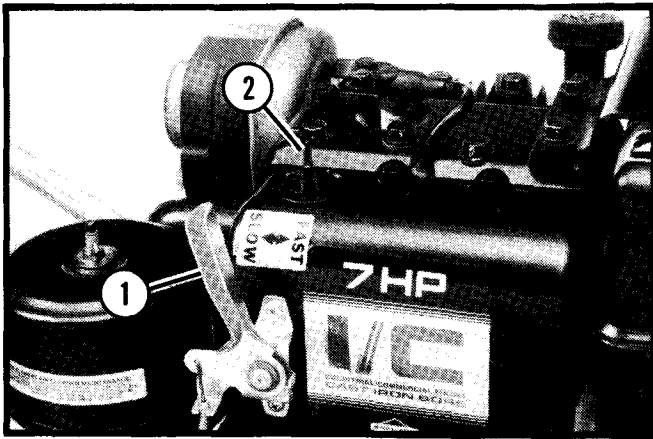

Figure 8. Engine Controls
1. Move the throttle lever on the engine to a "middle" position and turn the engine switch to ON (See Figure 8).